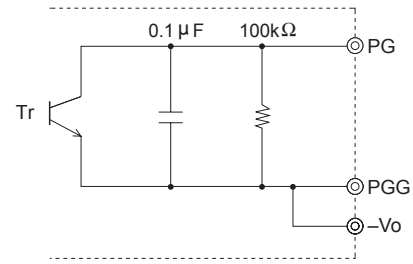

Fig.6.2 Internal circuit of PG
- Table 6.3, see Fig. 6.2 the internal structure circuit explaining the operation of the PG alarm.